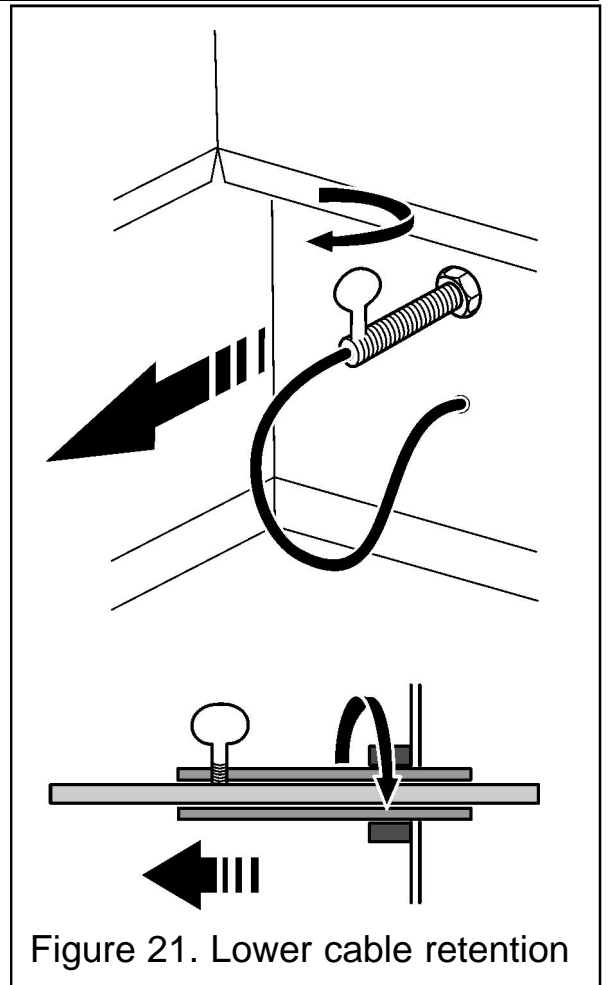

Figure 21. Lower cable retention
12. Pull each cable taut. Push the cable retainers hard up against the back panel. The end of the cable adjuster will pass into the hole. Tighten the screws in the retainers so that they clamp the cables in position. Apply tension to the cables by turning the hexagonal adjusters by hand (See figure 21).
15. Feed the free length of the cables through the small holes in the back of the convection box immediately below the cable adjusters so that they are available to allow easy removal and refitting of the appliance during subsequent service calls. **Do not cut off the free lengths of cable** (See figure 21).